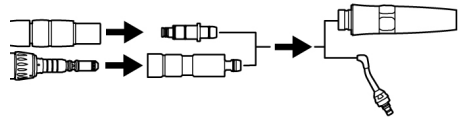

Fig. 19
2. Attach the blower nozzle to the coupling and attach the blower nozzle to the end of the handpiece or the nozzle (Fig. 19).